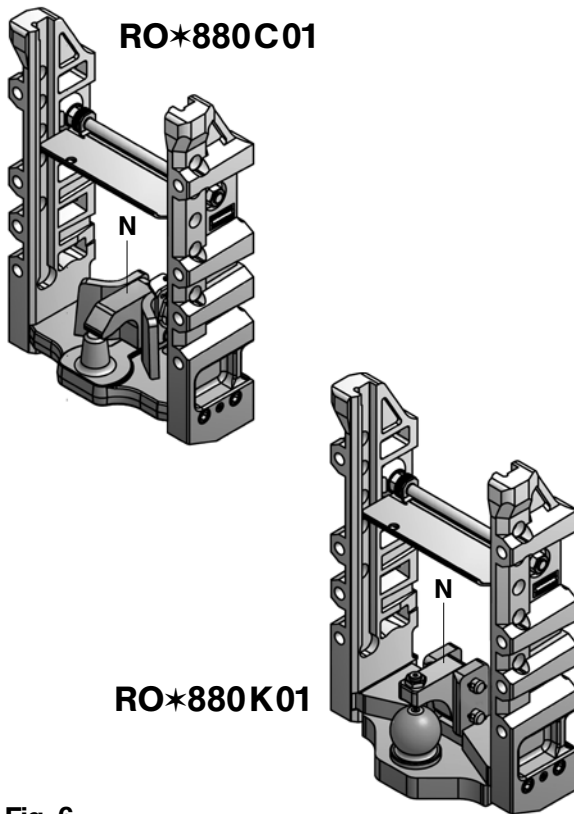

Fig. 6
- Press the latch (**N**) onto the ball/piton (see Fig. 6).